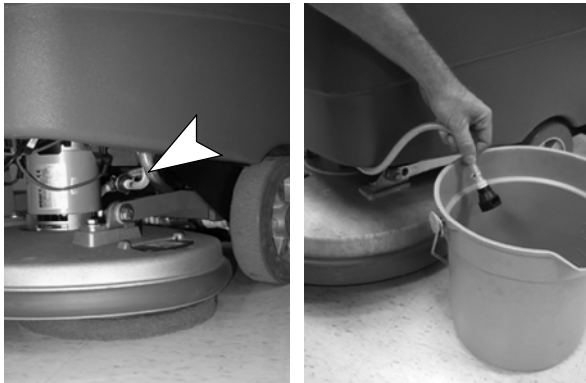

FIG. 56
3. Disconnect the black connector fitting at the scrub head and place the hose into a bucket (Figure 56).